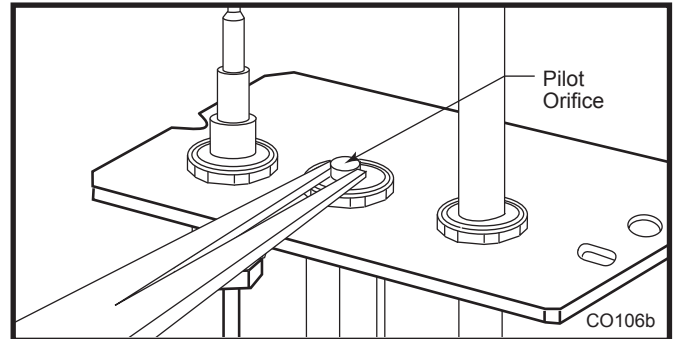

Fig. 59 Remove pilot orifice.
- Remove pilot orifice with needlenose pliers. (Fig. 59) **NOTE:** Use a wrench to hold pilot tube in place while removing the orifice.